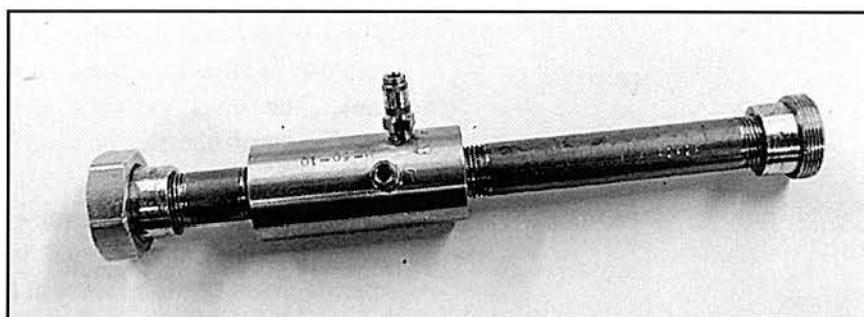

Figure 26. Venturi Tube
- **Venturi Tube** - The venturi tube, as shown in figure 26, is another type of differential pressure flow sensor. It too is used with the optional smart transmitter.